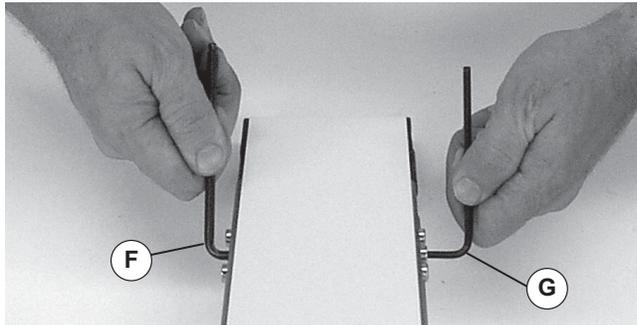

Figure 4
- While maintaining tension on pinion gear (Figure 4, item F) loosen lock screw (G). Rotate pinion gear (F) clockwise to release conveyor belt tension.
- Secure lock screw (Figure 4, item G) to 57 in-lb (6.4 N-m).